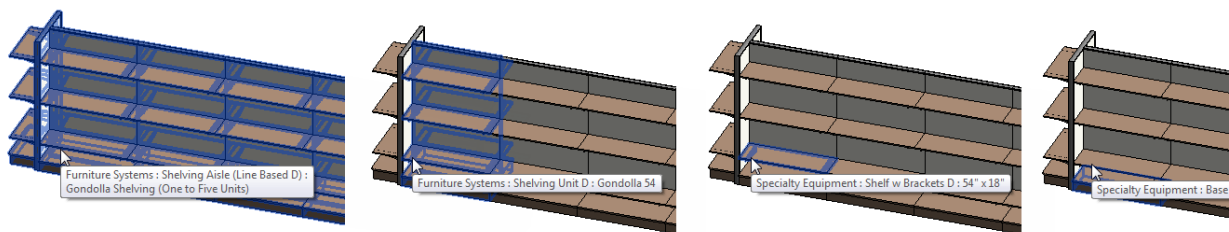

Figure 17—Nesting multiple levels
- Give careful consideration to how many levels of nesting you introduce**—It is possible to nest multiple layers deep. In other words, you can nest family A into family B and then in turn nest family B into family C and so on. There can be benefits to doing this, but each level of nesting you introduce will increase the complexity of the final family and make it more challenging to track down problems when it does not flex properly. Multi-level families have been created quite successfully, but careful planning and documentation is a must. If you are not sure how deep to nest, start with a manageable rule-of-thumb of say three levels and work from there. If you are building a family that seems to need more than three levels, don't immediately rule it out, just let it be a small red flag that tells you to look for other ways to solve the problem. If no viable alternative can be determined, then "break the rule" for that family (see Figure 17).